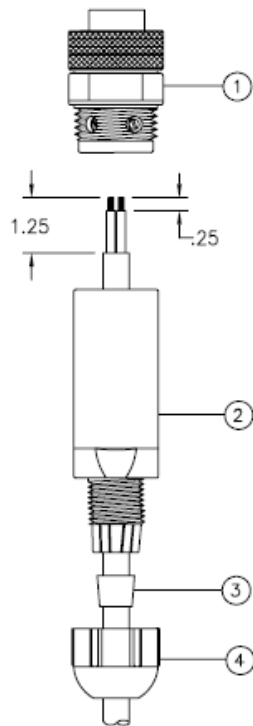

Figure 1 Power Cable Connector Assembly
Refer to Figure 1.
1. Place compression nut (4), grommet (3), and body (2) over power cable as shown in Figure 1.
2. Strip outer jacket and inner conductors as shown in Figure 1.
3. Secure conductors to appropriate terminals by tightening screws on insert assembly (1). Refer to the following table.